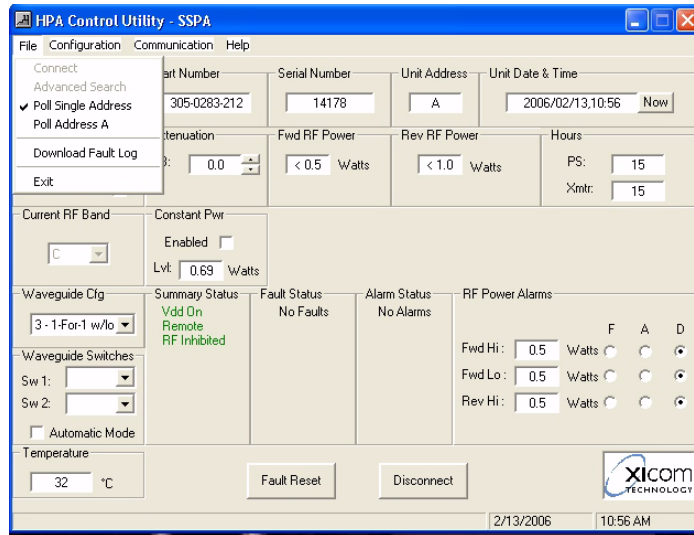
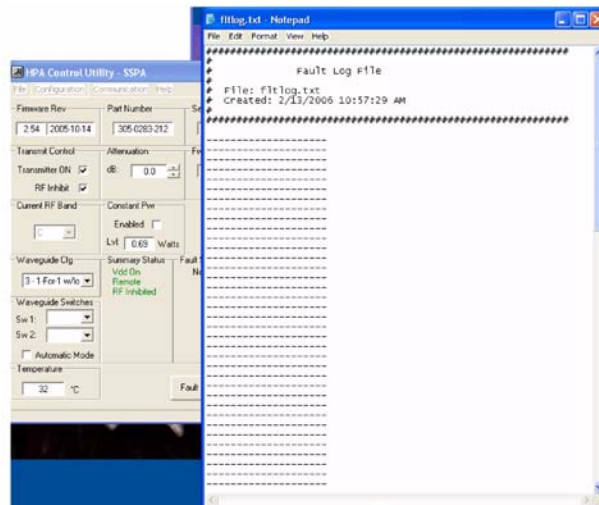

Figure 18, Primary User Interface – File Menu when connected
Figure 19, Display of Fault Log
3. Refer to Figure 18 and Figure 19. When the program is connected to an amplifier, the amplifier’s fault log may be viewed by Selecting :